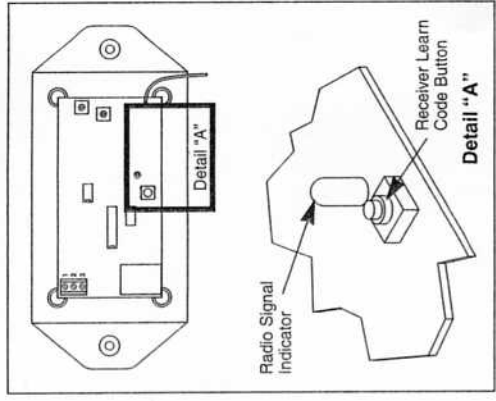

Fig. 6
Step 4-1 Locate the new Receiver Learn Code Button (Fig. 6).